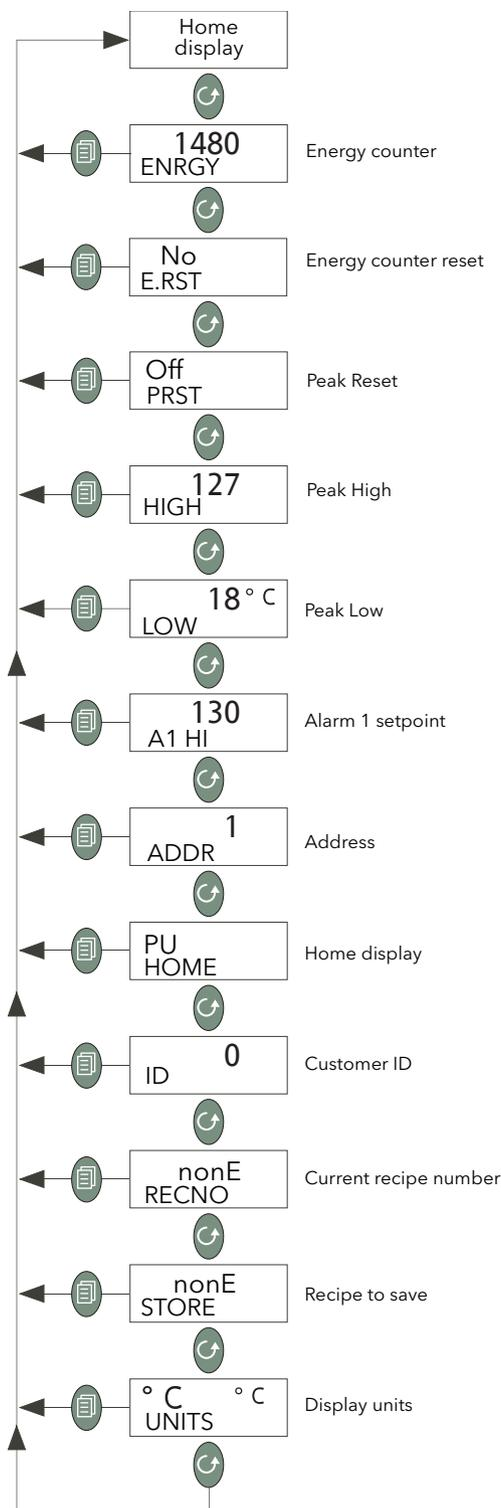

Figure A5.3.1 Level 2 parameter menu
1. In the level two list of parameters (figure A5.3.1), press the scroll key repeatedly (or hold continuously) until 'STORE' appears.
1. In the level two list of parameters (figure A5.3.1), press the scroll key repeatedly (or hold continuously) until 'RECNO' appears, along with a number (between 1 and 5 inclusive) indicating which recipe was last selected.